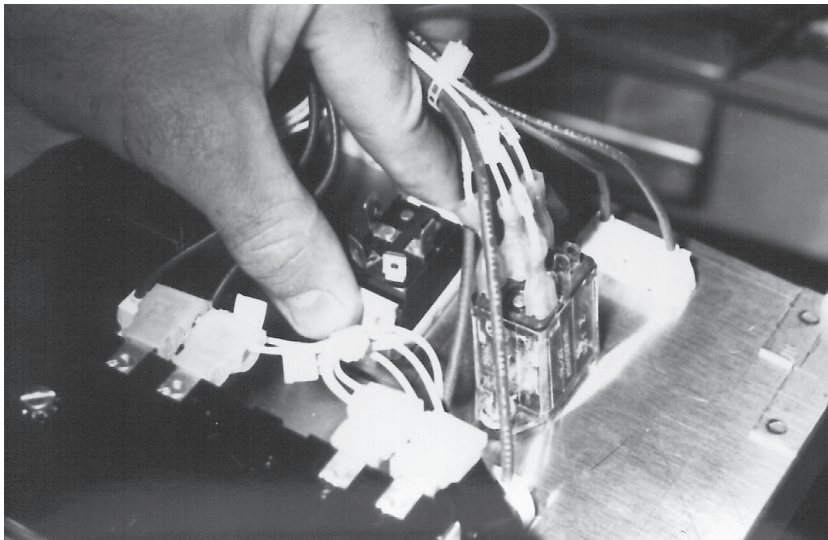

Fig. 17
3. Press tabs on both sides of the switch and push the switch through the front of the control panel. (Fig. 17)